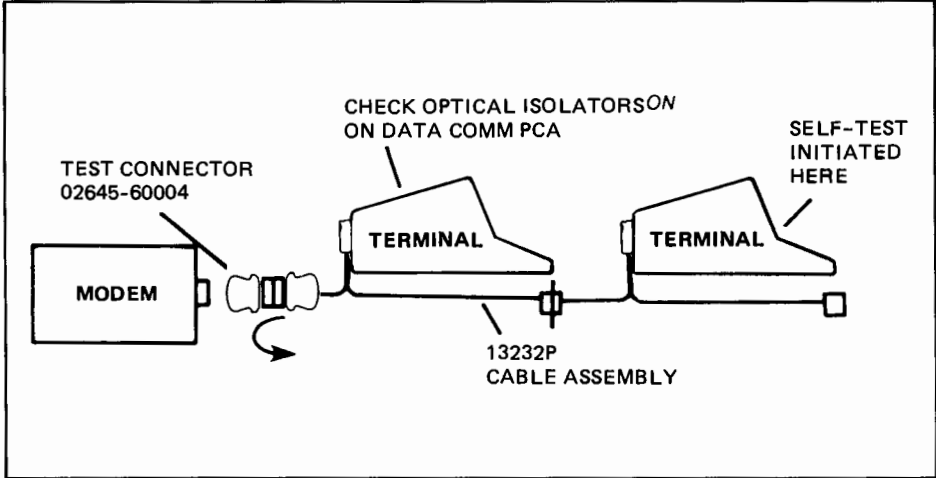

Figure 6-13. Multipoint Cable Test Setup
1. Turn off power and connect the equipment as shown in figure 6-13 or 6-14.